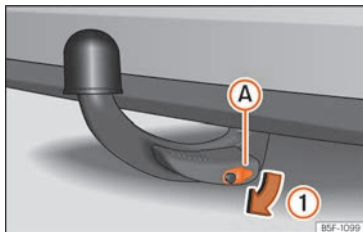

Fig. 259 Removing the lock cover.
- Remove cover (A) from the lock in the direction of arrow (1) » Fig. 259.